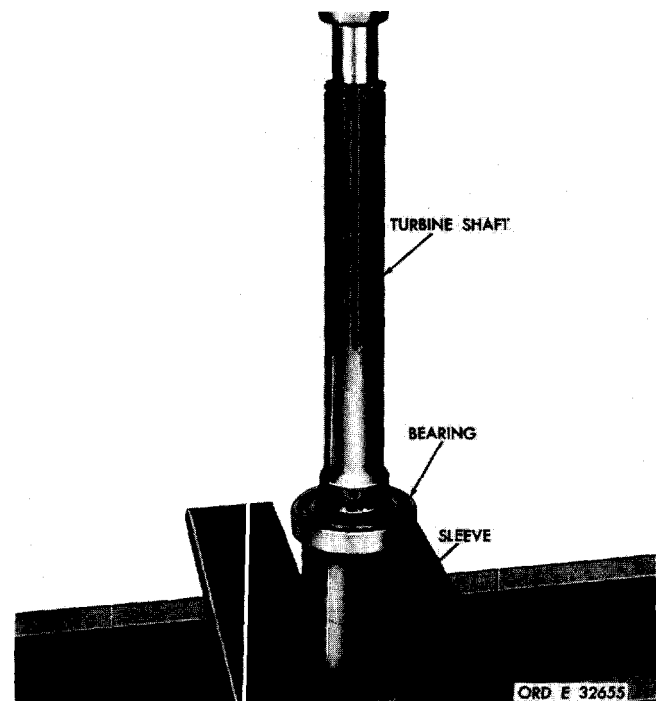

Figure 236. Removing bearing from turbine shaft
b. Using a sleeve which will contact the inner race of the bearing, support the assembly in a press. Press the shaft out of the bearing (fig. 236).